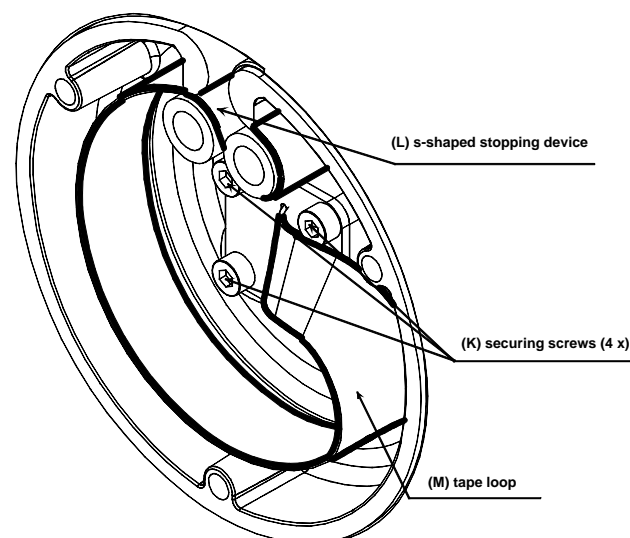

Figure 8-7
- Unscrew with the 2.5 Allen key the 4 screws (K) of the washer holder, as shown on Figure 8-7.
- Make a loop (M) and a S-shape (L) with the tape as shown on Figure 8-7.
- Secure the gaskets and the washers mounted on the tape in the axle core with the washer holder and its 4 screws (K) as shown on Figure 8-7. Do not tighten the 4 screws (K).